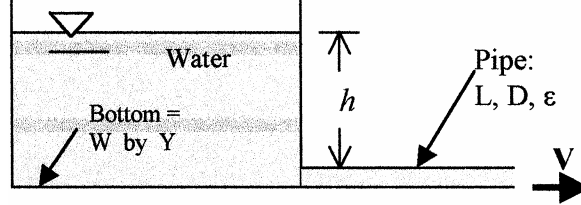

Fig. P6.54
6.54* A swimming pool W by Y by h deep is to be emptied by gravity through the long pipe shown in Fig. P6.54. Assuming an average pipe friction factor f_{av} and neglecting minor losses, derive a formula for the time to empty the tank from an initial level h_0 .